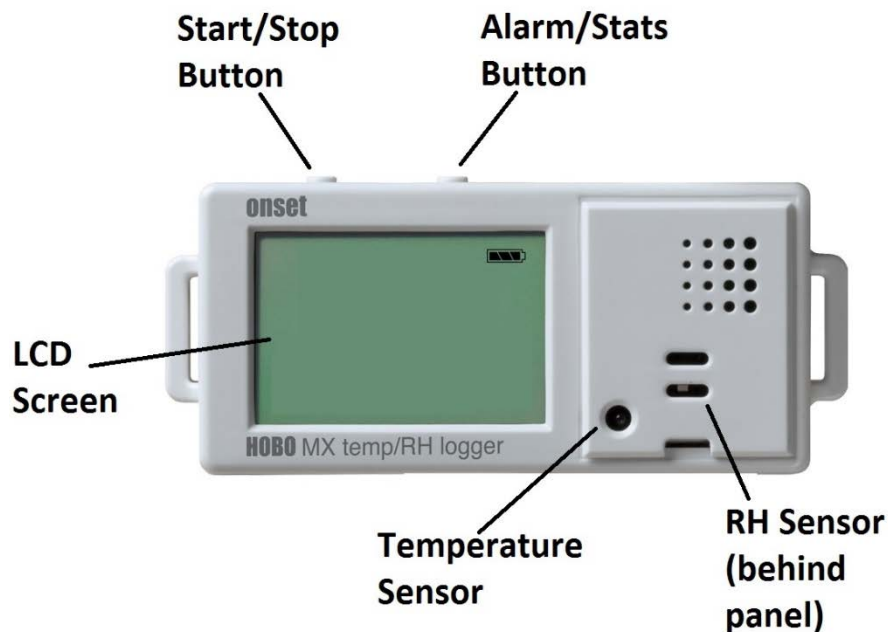

Figure A.6.1: MX1101 Data Logger Diagram
1. Make sure that the screen on the MX1101 Data Logger displays what is shown on Figure A.6.1.